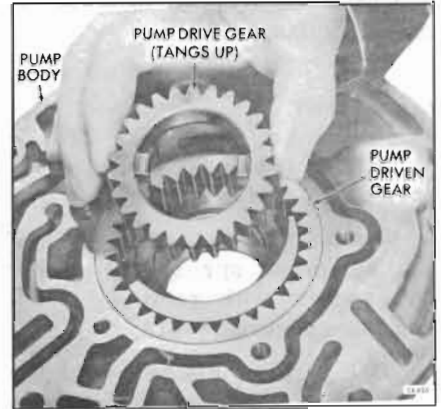

Figure 74-625
14. Mark drive and driven gears for reassembly and remove drive gear. See Figure 74-625.